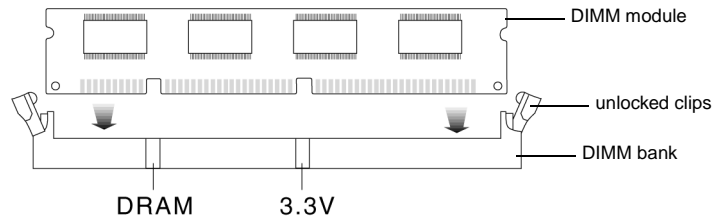

Figure 2-2: Installing a DIMM module correctly.
1. Press the two clips at the ends of the DIMM bank outwards (Figure 2-2). This is to unlock them.